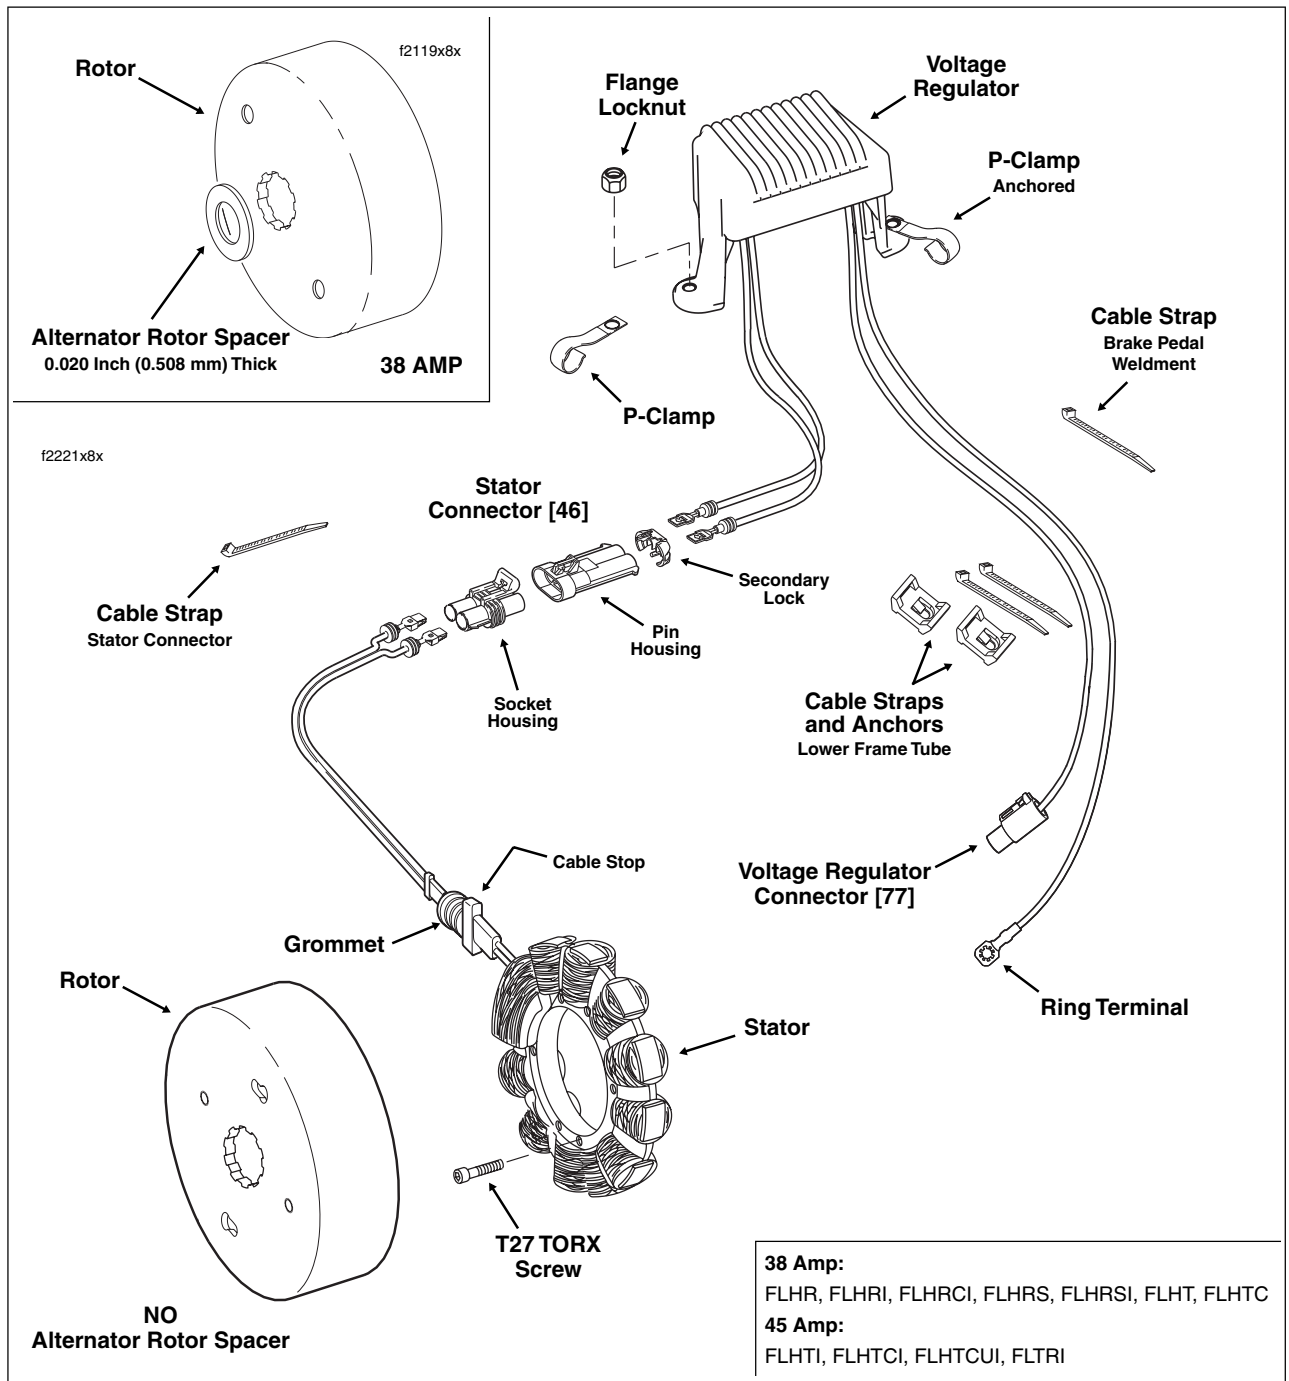

Figure 8-16. Stator/Voltage Regulator Assemblies - 45 AMP
- b. See inset of Figure 8-16. Install the 0.020 inch (0.508 mm) thick alternator rotor spacer and the shaft extension on the engine sprocket shaft.